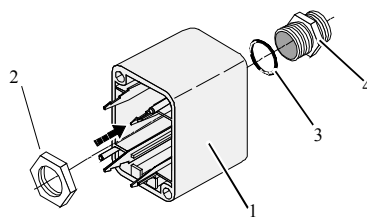

Figure 4-1: Assembling of the Cable Pipe
- The sealing must be done in the correct way O-Ring (3) at the cable pipe (4) (see also Figure 4-1).